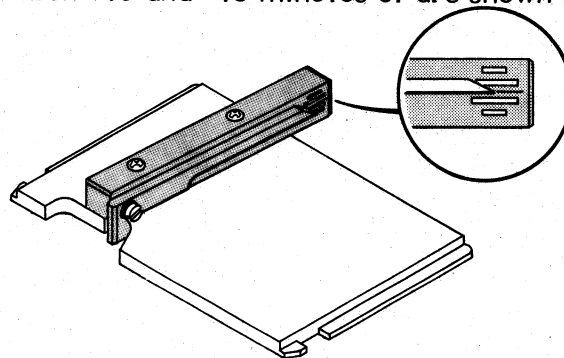

Figure 3-11. Zenith Alignment Tool
- h. Load zenith alignment tool in tape drive cartridge slot in same way cartridge is loaded. When zenith alignment tool reaches hard stop, indicator should point between +15 and -15 minutes of arc shown in Figure 3-11.